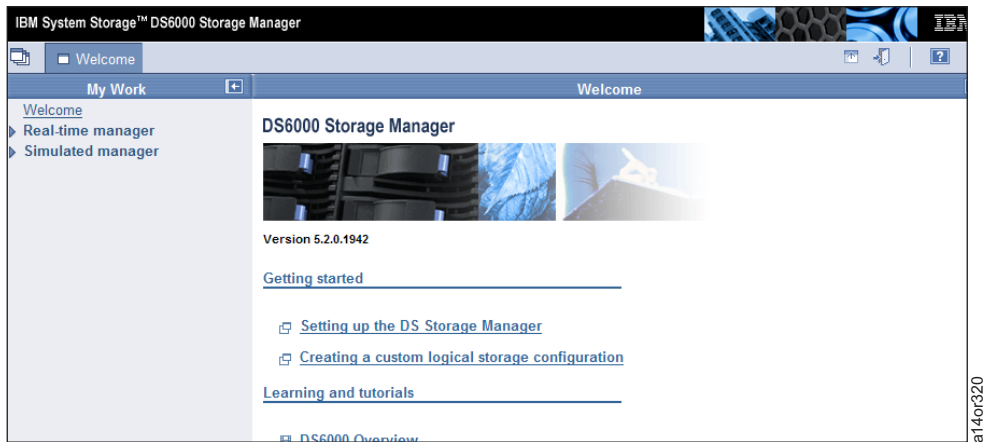

Figure 3-89. Storage Manager Welcome Screen
4. Once the DS6000 GUI is launched, Figure 3-89 on page 3-70 displays.